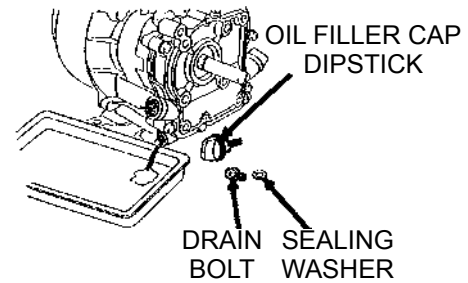

Figure 22. Engine Oil (Draining)
- Drain the engine oil when the oil is warm as shown in Figure 22.